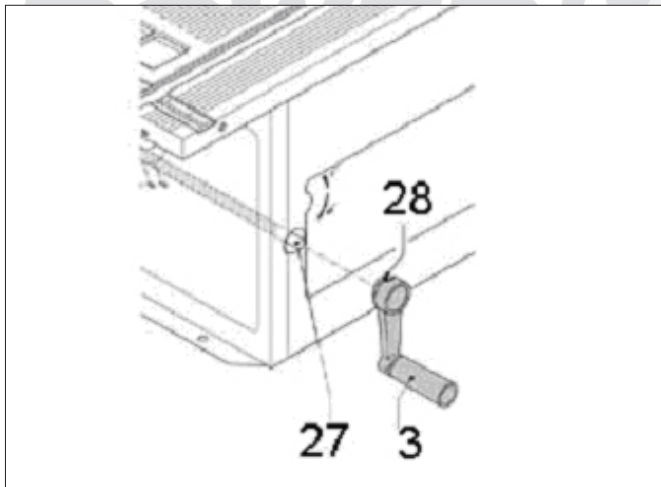

Figure 6
Slot the bevel adjustment handle (3) onto the shaft (27) and secure it using the screw (28) as shown in figure 6.